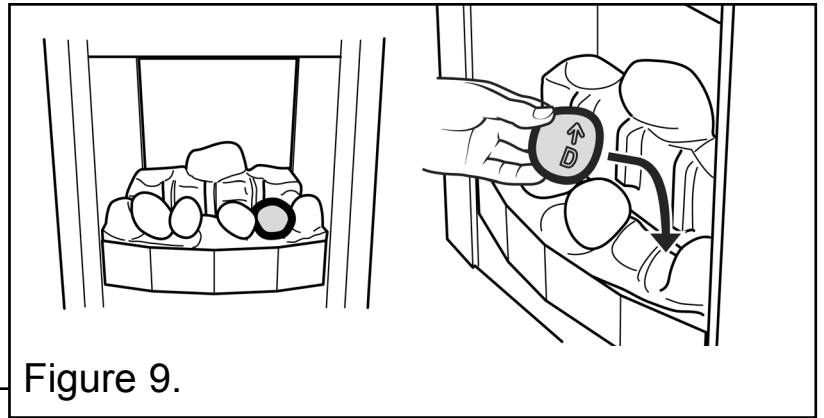

Figure 9.
6. Hold pebble 'D' upright with the arrow pointing to the top. Place pebble "D" on top of the base front pebble. It should rest against the moulded pebble to its right. (See figure 9).